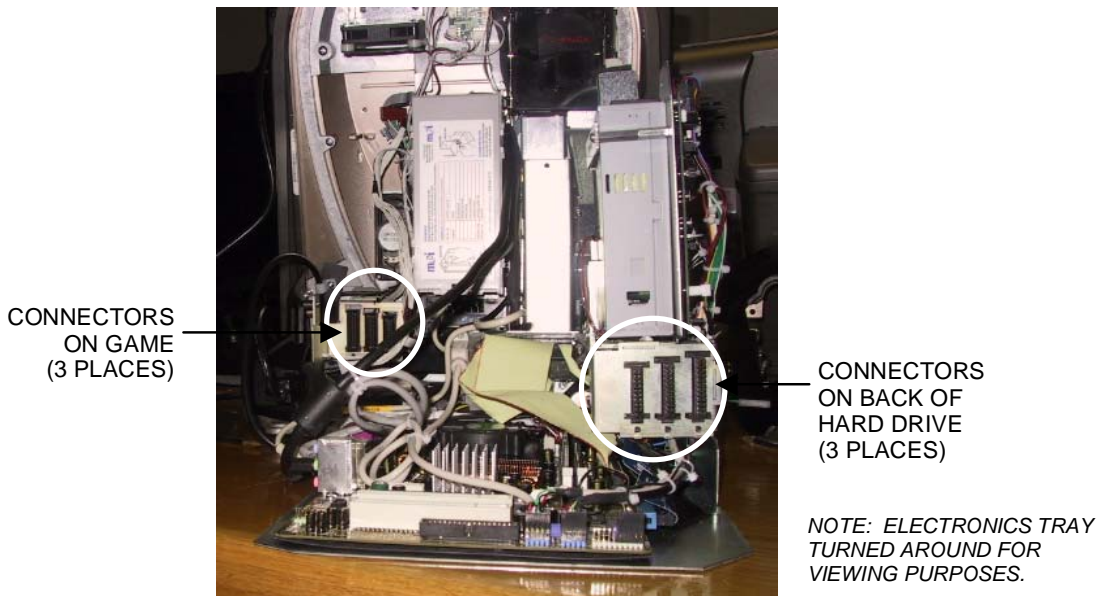

FIGURE 7 - CONNECTORS ON BACK OF HARD DRIVE BRACKET AND WALL OF GAME
3. Restore the hard drive/power supply tower to its upright position. Slide the electronics tray back into place, making sure that the connectors on the back of the hard drive bracket click into the connectors on the wall of the game, if applicable (see Figure 7). If you disconnected three connectors from the electronics tray to the game (see Figure 5), reconnect them. Secure the tray by screwing in the thumbscrew. See Figure 4.